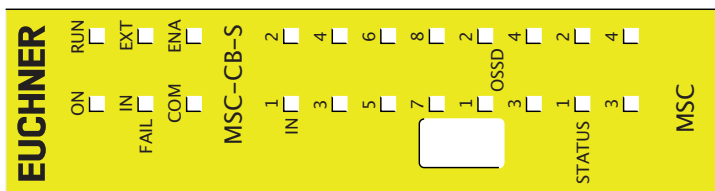

Figure 14:
8.3.2. Base unit MSC-CB-S (Figure 14)